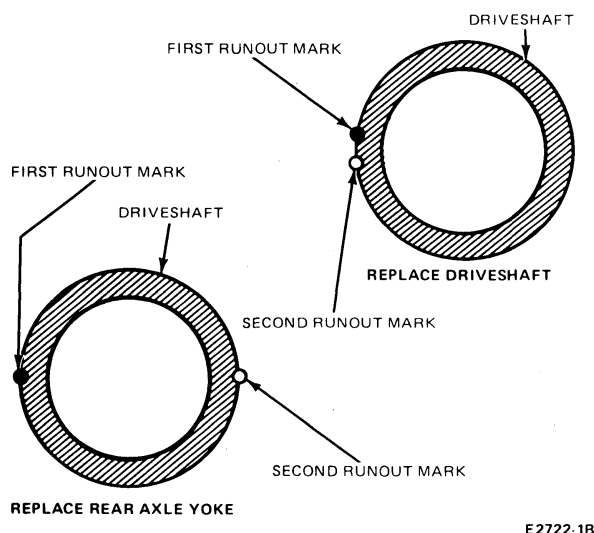

FIG. 14 First and Second Runout Mark Comparisons
- Compare the first and second marks at the rear of the driveshaft to determine the cause of the runout. If the marks are within approximately 1 inch, replace the driveshaft. If the marks are approximately on opposite sides of the shaft, replace the companion flange Fig. 14.